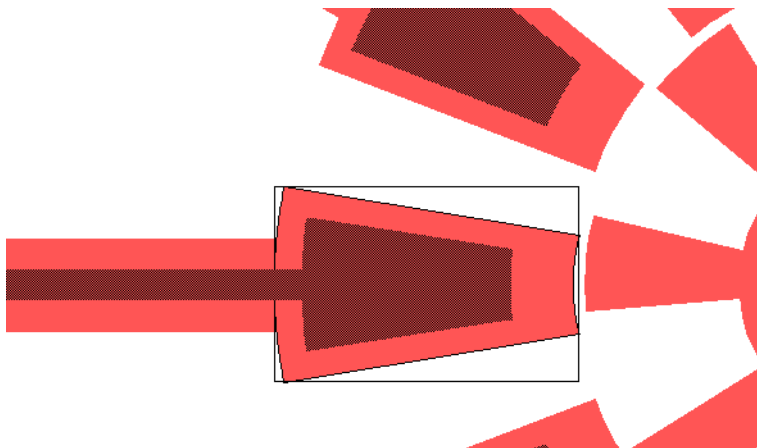

Figure 36: Curving the leftmost edge of the polygon
- ☑ Press the **Ctrl** key, hold and drag the center mouse button (**Alt+Left** hold for two button mice) to the left to convert the straight edge into a curved edge. Release the mouse button to complete this action (Figure 36). .